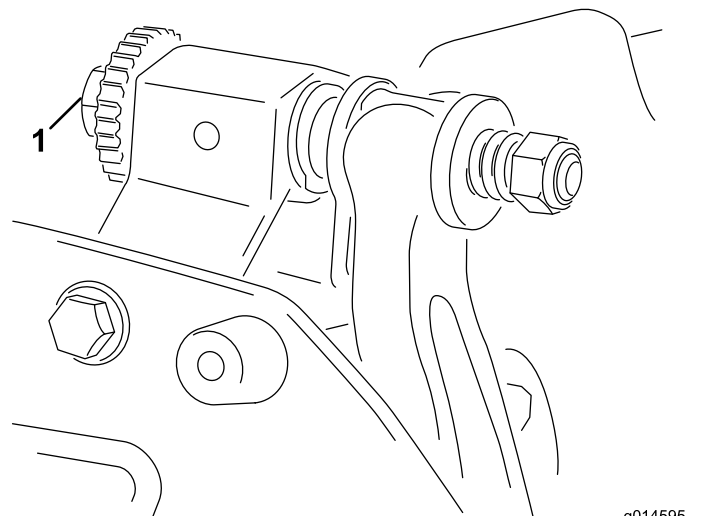

Figure 5
- A. Turn the bedbar adjusting screws clockwise (Figure 5), 1 click at a time, until you feel and hear light contact.
6. Turn the right bedbar adjusting screw (Figure 5) until you feel light pressure on the shim when sliding it side-to-side. Remove the shim.